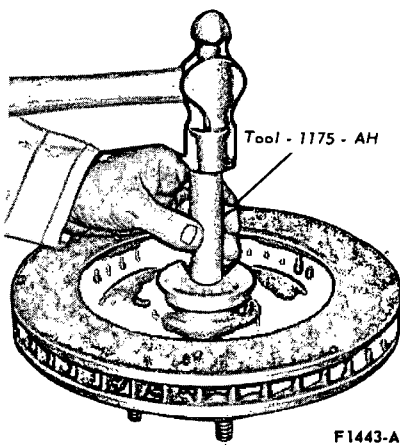

FIG. 5 Installing Grease Retainer—Disc
14. Place the inner bearing cone and roller assembly in the inner cup. Apply a light film of grease to the lips of the grease retainer and install the new grease retainer with the tool shown in Fig. 5. Be sure the retainer is properly seated.